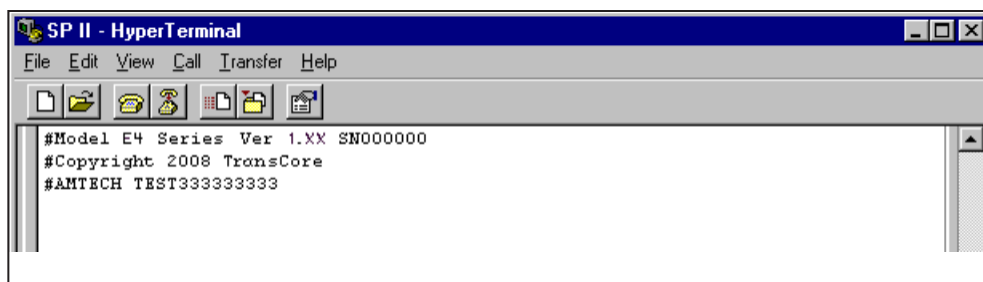

Figure 30 Successful Tag Read
2. Pass one test tag in front of the active MPRX antenna. If the MPRX reads the tag, the terminal emulation application displays the tag information on the screen as shown in Figure 30.